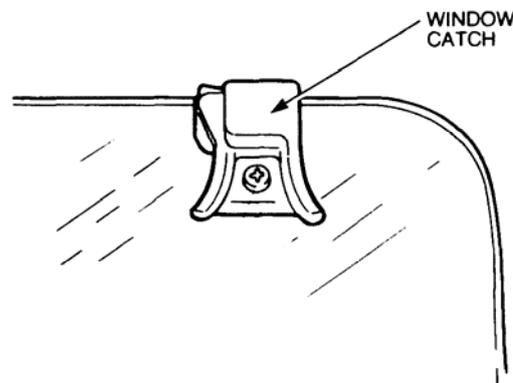

Figure 46 Window Catch Removal
- m. Remove the screw securing the window catch to the sliding window (refer Figure 46).